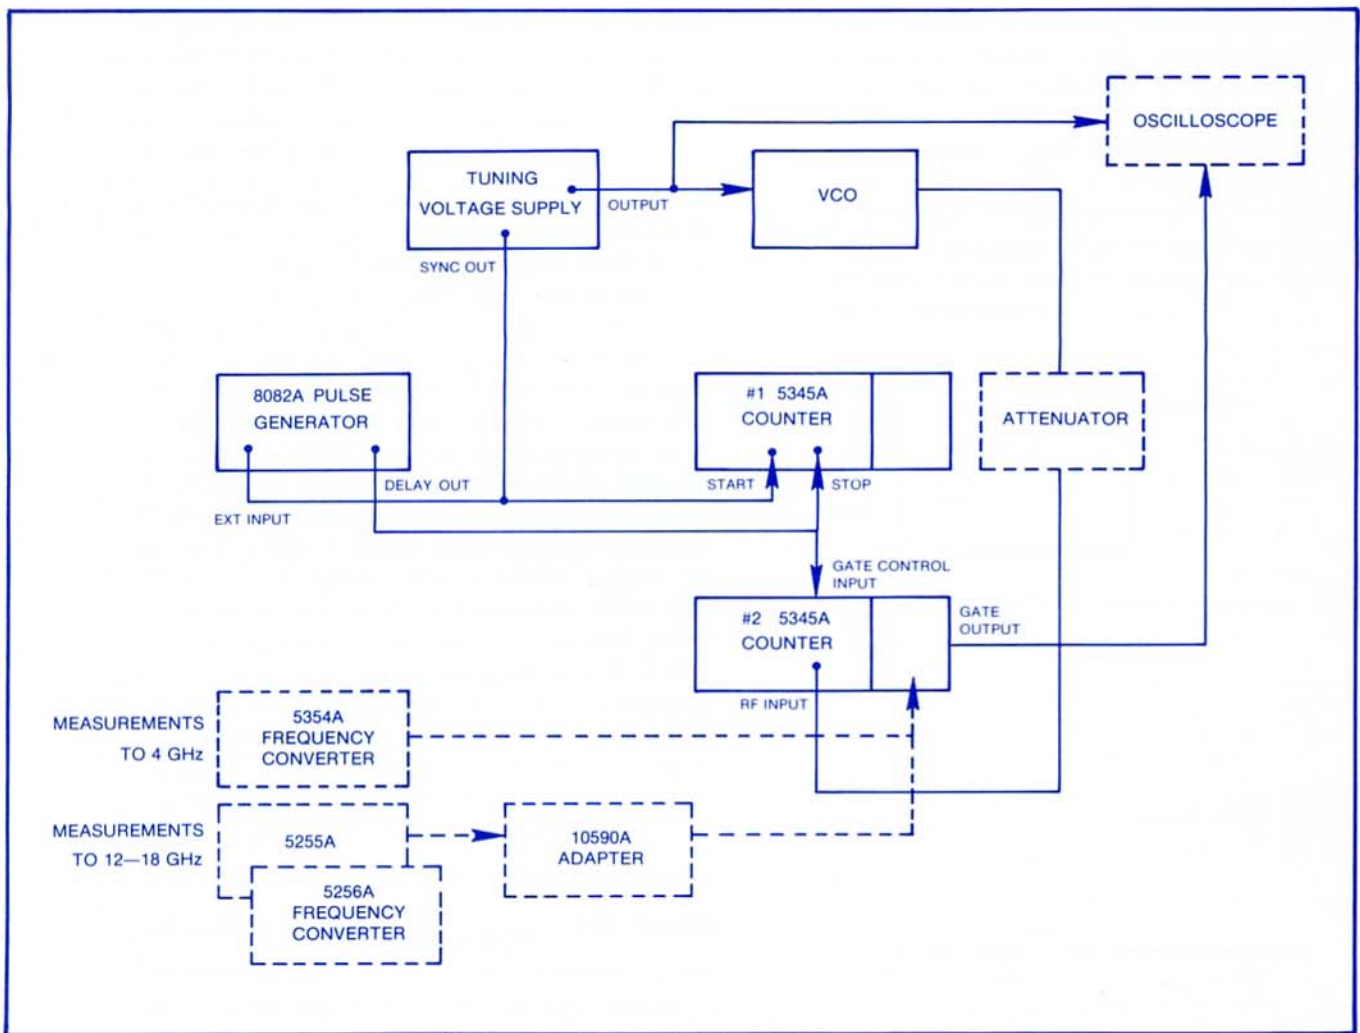
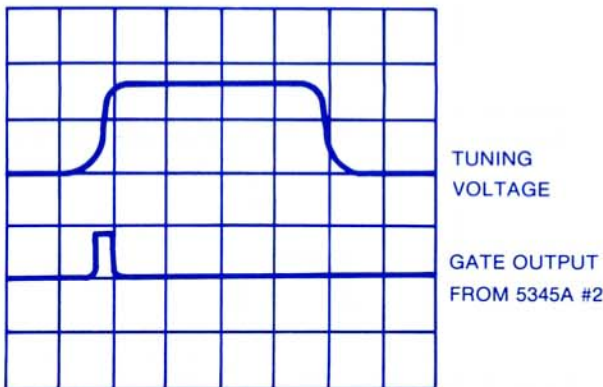

Figure 2. Measurement Set-Up
Figure 4. Oscilloscope Display of Position of External Gate Relative to Tuning Voltage Step
Figure 2 is a block diagram of the measurement set-up. All connections may be made with 50 ohm
In Figure 2, the measurement sequence begins when the tuning voltage supply applies a voltage step to the VCO. Synchronous with this step is an output pulse which is used to trigger the 8082A Pulse Generator and the START channel of a 5345A Electronic Counter (#1) time interval measurement. After a time delay which is determined by settings on the 8082A, a pulse is transmitted from the 8082A to the STOP channel of the 5345A (#1) time interval measurement and to the GATE CONTROL INPUT of a second 5345A (#2). This pulse triggers a time interval measurement and causes a frequency measurement of the VCO output to be accomplished during the duration of the 8082A output pulse. The output of the VCO is directed to the input connector of 5345A #2. In this way a frequency measurement during an interval prescribed by the external gate width has been accomplished at a time which is approximately equal to the delay setting on the 8082A Pulse Generator. A number of measurements with the same delay setting
1. Set the tuning voltage supply to the proper voltage levels. Also set rise time, fall time, repetition rate, and pulse width to the desired values. Note that in Figure 2 an oscilloscope is recommended for assistance in making these settings. It may be desirable during the setting of the tuning voltage parameters to replace the VCO with a termination on the input line, thus eliminating reactance of the VCO input circuitry from the set-up while setting the tuning voltage parameters. The oscilloscope display is also convenient later in the measurement set-up to observe the relative position of the external gate and the VCO drive waveform (see Figure 4). If a tuning voltage supply of sufficient versatility is not available, a high quality pulse generator such as the HP Model 8007A may suffice.
2. Measure the level of the VCO output and attenuate as necessary (see "Measurement Considerations" below). The VCO output may now be connected to 5345A #2 as shown in Figure 2.
5. By manipulating the PULSE DELAY control of the 8082A Pulse Generator, position the external gate at the desired location in the tuning voltage waveform. Once again, an oscilloscope display is useful for observing the position of the external gate in the tuning voltage waveform as in Figure 4. Note also that numerous systematic delays built into this measurement may cause the external gate to appear to be in the wrong position on the oscilloscope display. This problem may be corrected either by inserting a delay line between the tuning voltage supply and VCO or, if possible, delaying the tuning voltage output to the VCO with respect to the synchronous output.
- A. The ability of the 8082A Pulse Generator to maintain settings of its analog controls may be a limitation on the accuracy of these measurements. Both the PULSE WIDTH and the PULSE DELAY settings are governed by the following accuracy considerations: (1) during a short time (10 minutes or less), settings may drift one part in  $10^4$ ; (2) for periods of time in excess of 10 minutes, accuracies of one part in  $10^3$  may be achieved throughout the full range of environmental specifications of the 8082A.
- B. For measurements of frequencies above 500 MHz, frequency converter plug-ins for the 5345A Electronic Counter are required as indicated in Figure 2. It is important that inputs to these frequency converters be as low level as possible (below  $-10$  dBm). High level inputs of fast changing microwave frequencies may cause distortions in the video sections of these converters. It is recommended that the video